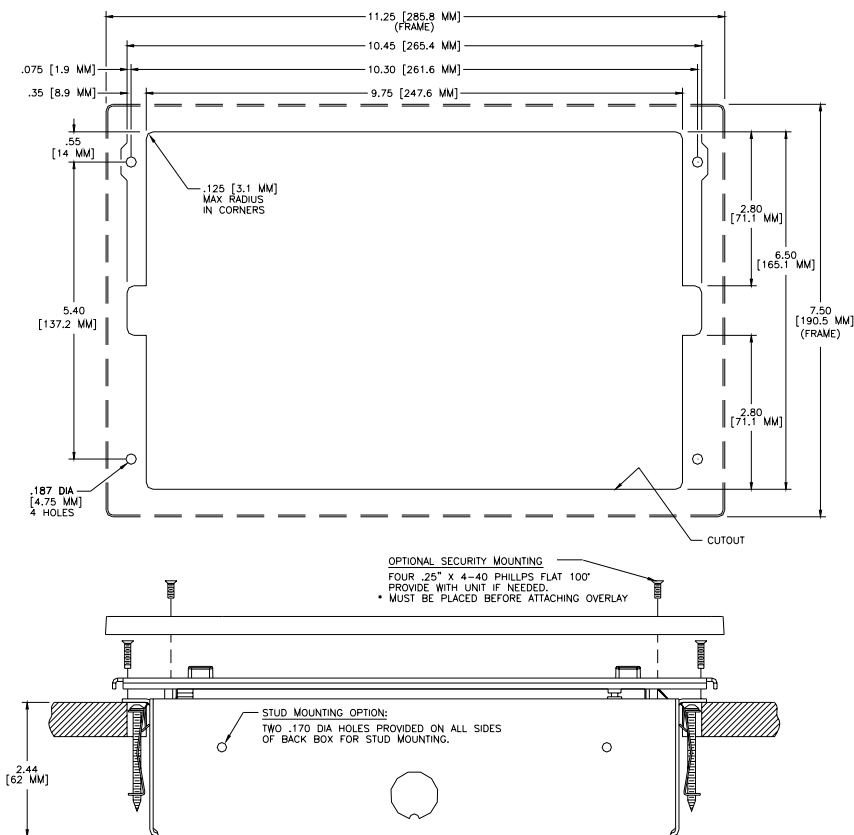

FIG. 5 Decor style (AXD) and BB-TP2 cutout dimensions for plasterboard
1. Cut out the surface using the dimensions shown in FIG. 5.